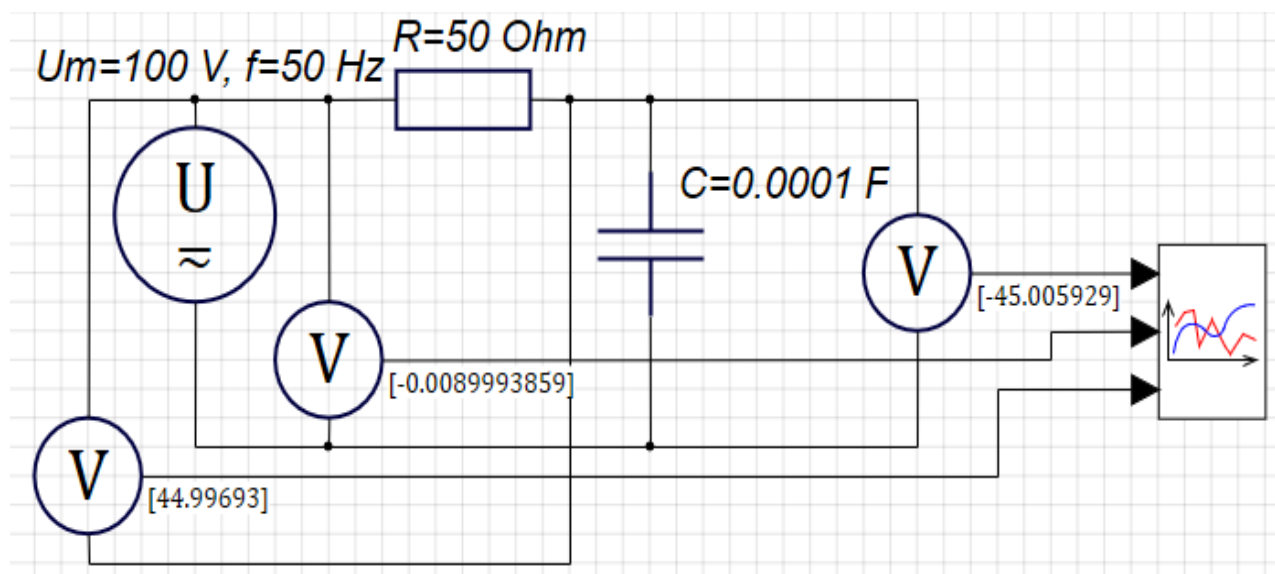

Figure 3.2
4. Run the scheme for simulation. At the end of the calculation, when you click on the **Show values on wires** button , the instantaneous voltage values at the end of the simulation will be indicated on the mathematical outputs of the voltmeters in volts (Figure 3.2):